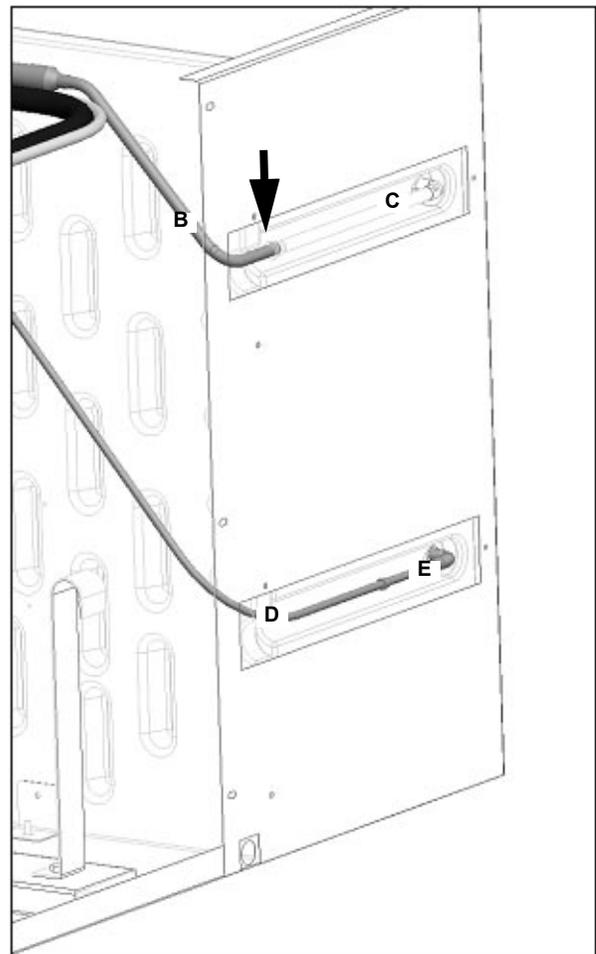

Figure 25. Rear of Unit
23. At the rear of the unit, remove the suction line (B) from the left evaporator. **DO NOT** remove the line extension (C) (Figure 25).